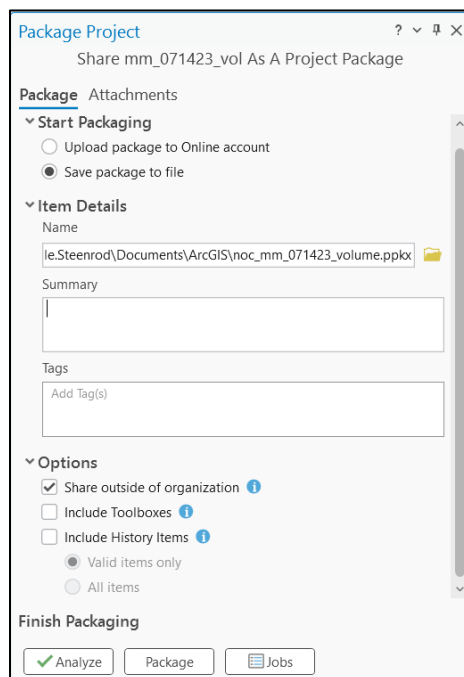

Figure 10. Screenshot of the Project Package window, with the appropriate selections chosen and file name edited to match the instructions listed above.
- a. Share tab → Project (left side) (Fig. 10).